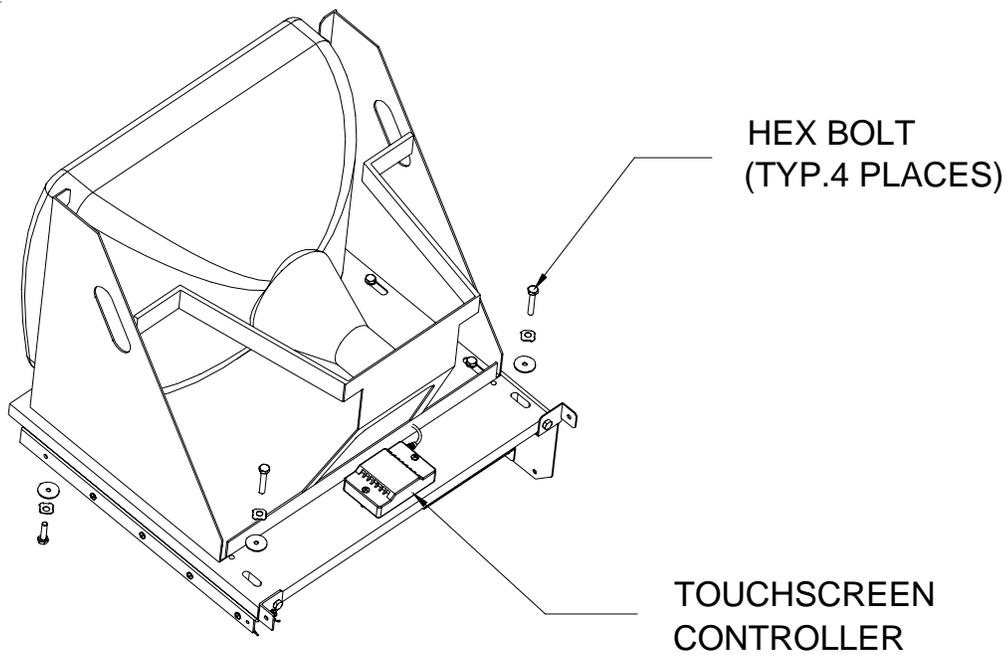

FIGURE 3 – MAXX UPRIGHT - MONITOR REMOVAL
4. Connect the new touchscreen cable in the back of the controller and secure the controller on the mounting screws in the game with the existing hardware (see Figure 3). Also connect the Molex connector (orange and gray wires) to the main power harness.